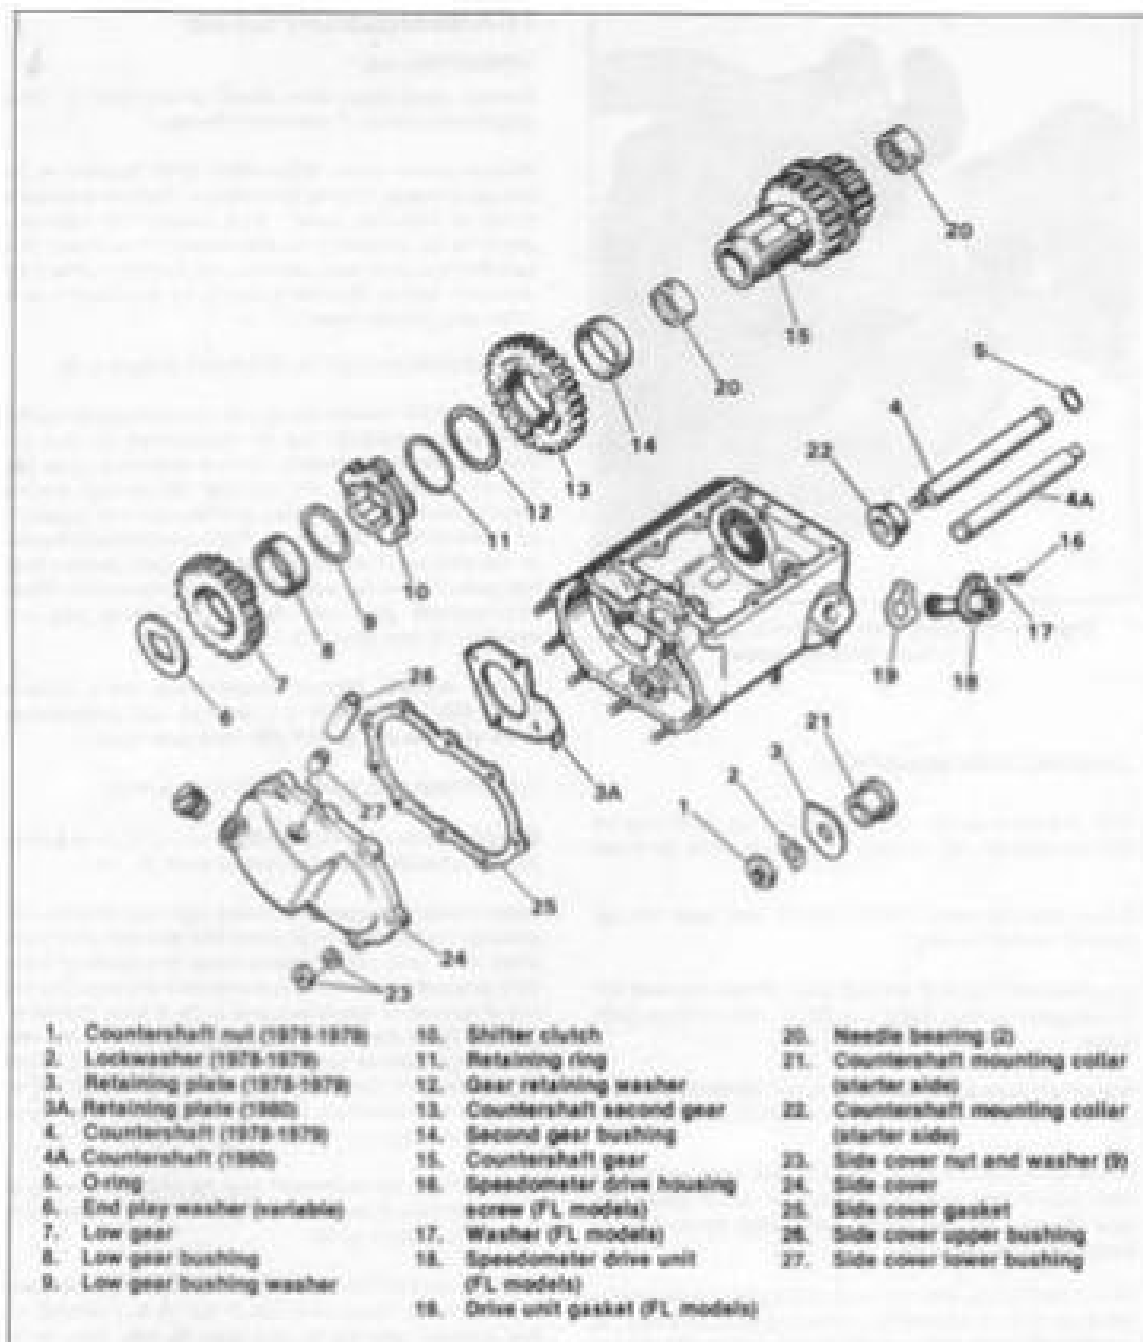
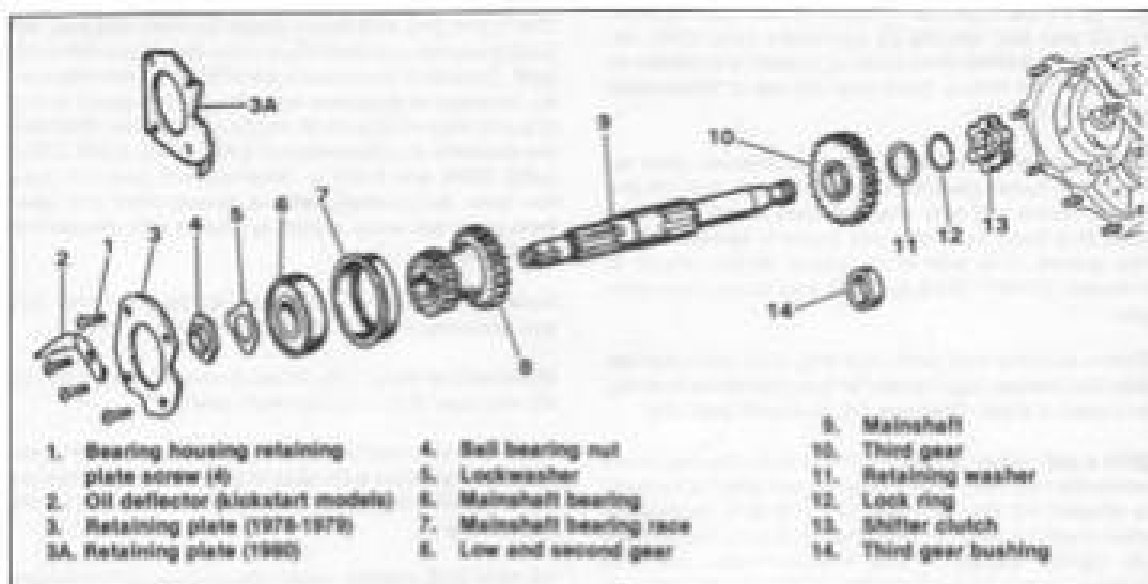
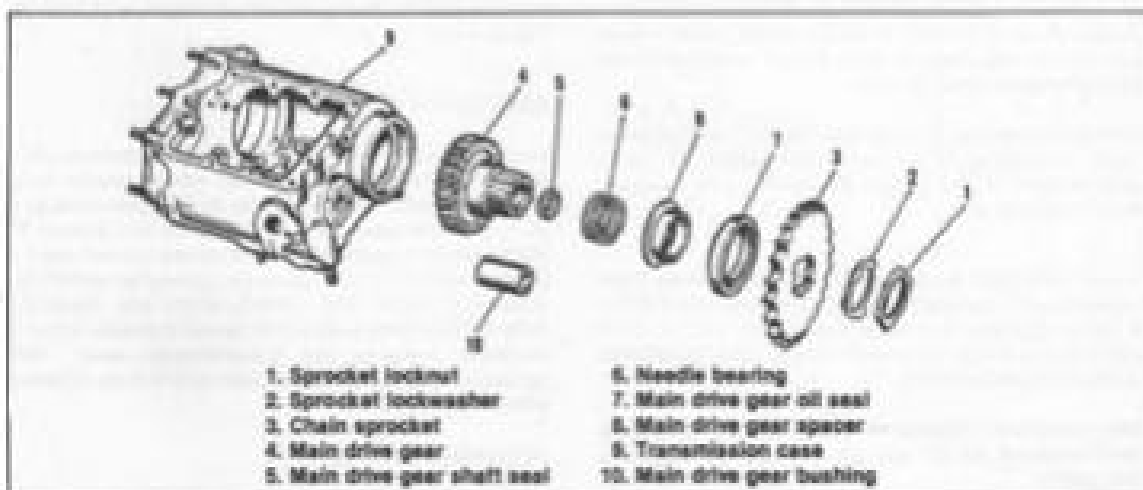

Figure 4-19. Countershaft and Case Assembly – Exploded View
Figure 4-20. Mainshaft Assembly - Exploded View
Figure 4-21. Main Drive Gear – Exploded View
DISASSEMBLING COUNTERSHAFT (Figure 4-19)
DISASSEMBLING MAINSHAFT (Figure 4-20)
DISASSEMBLING MAIN DRIVE GEAR (Figure 4-21)
Inspect all bushings, bearings and shafts. If bent or worn, install new parts. If mainshaft ball bearing (6, Figure 4-20) is worn to point where play is obviously too great, install new bearing.
If main drive gear (4, Figure 4-21) fit is excessively loose on mainshaft, replace bushing (10) and ream to 1.002 to 1.003 in. diameter to provide specified fit on mainshaft using a 1 inch dia. expansion reamer (See TRANSMISSION SPECIFICATIONS).
Carefully check shifter clutches (10, Figure 4-19 and 13, Figure 4-20) and engaging dogs on gears. If they are rounded or battered appearing, they must be replaced.
Check bearings (6, Figure 4-21, 8, Figure 4-19 and 20, Figure 4-19).
See Figure 4-21. Press needle bearing (6) into case using a suitable drift. Press on lettered side of bearing only. Press flush with outside of case. Install main drive gear (4) from inside case. Coat rollers lightly with grease. Install main drive gear spacer (8) in oil seal (7) and press in oil seal flush with case. Sprocket (3) may be assembled after mainshaft and countershaft are installed. 1978-1979 sprockets have a recess on one side which is installed towards the transmission case. 1980 sprockets are flat on both sides and can be installed either way.
See Figure 4-20. Assemble parts 4 through 8 to mainshaft before installing mainshaft in gear case. Position
ASSEMBLING COUNTERSHAFT (Figures 4-19)
On 1975-1979 models, install the countershaft retaining plate (3), lockwasher (2) and nut (1). The flat side of the retaining plate should fit against the mainshaft bearing retaining plate (3, Figure 4-20). Tighten the nut to 55-60 ft-lbs torque and bend one ear of lockwasher against nut flat.